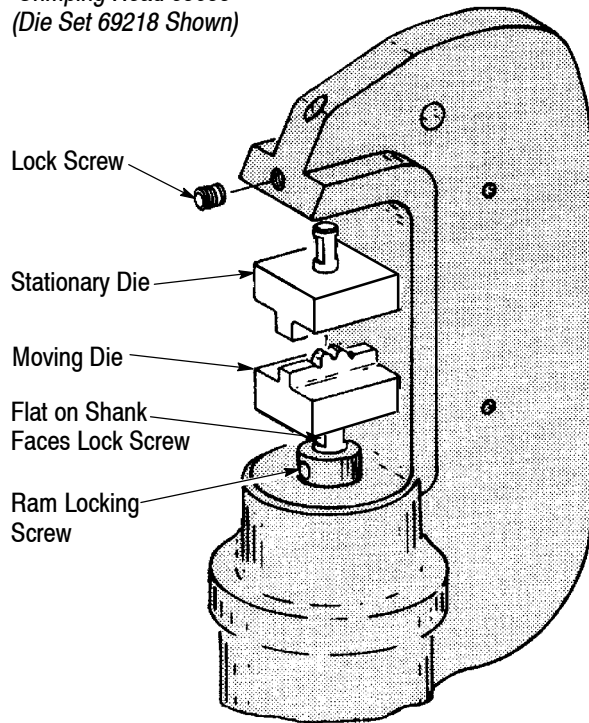

Figure 3
3. Loosen the ram lock screw and insert the shank of the moving die into the ram well. Tighten the lock screw. See Figure 3.
1. Loosen the lock screw in the top section of the crimping head. See Figure 3.
2. Insert the shank of the stationary die into the top section of the crimping head and tighten the lock screw. See Figure 3.
Ensure that the wire size stamped on the terminal or splice corresponds with the wire size stamped on the stationary die. Crimping head 69099 is shown in Figures 3 thru 6. The crimping procedure is identical when using crimping head 69097.